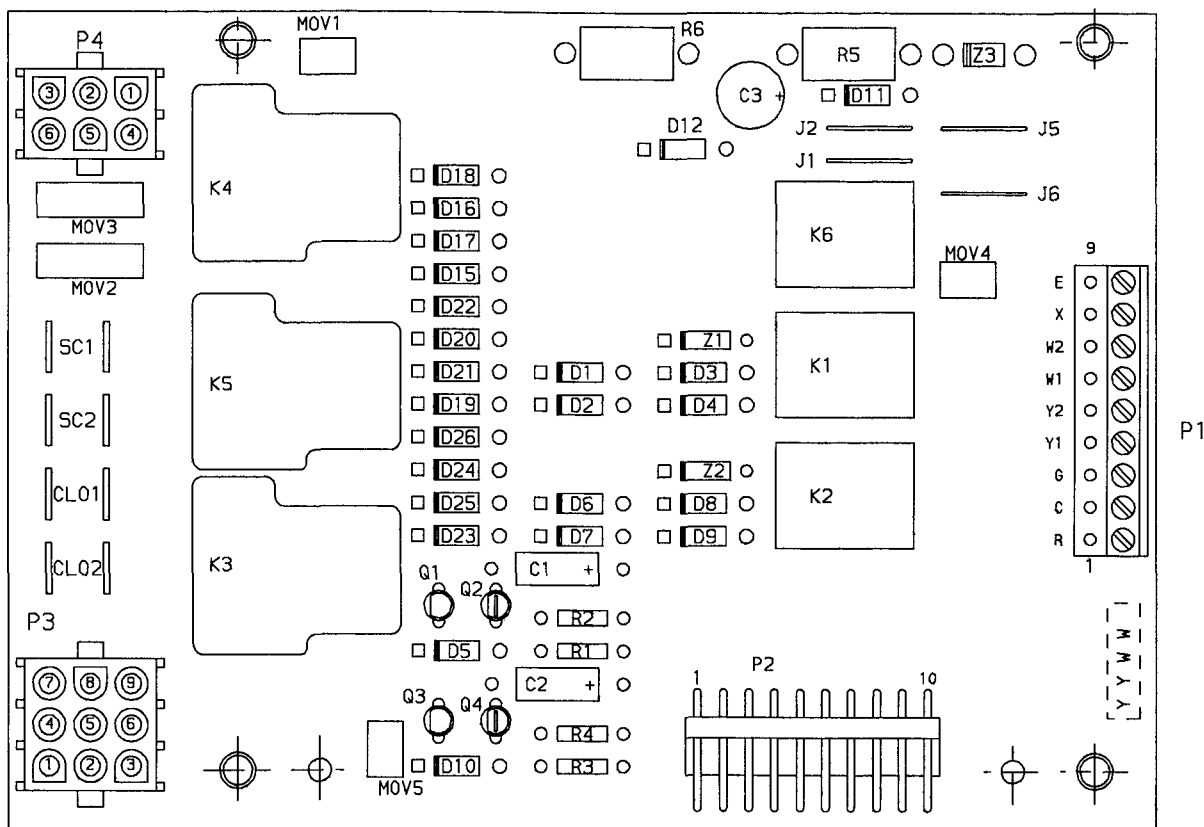

**Fig. 33 – Control Board Component Arrangement**
**BASIC CHECK** — Refer to Fig. 33 for control board component identification.